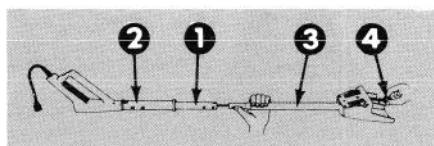

Figure 3
4. Lay handle assembly onto flat surface. Slide center handle grip off lower handle and onto upper handle (Fig. 3).
5. Align upper and lower handles. Hold handle connector with one hand and slide lower handle into mounting position in upper handle with other hand (Fig. 3). Align holes. Slide plastic center handle into position and align with holes in handles.